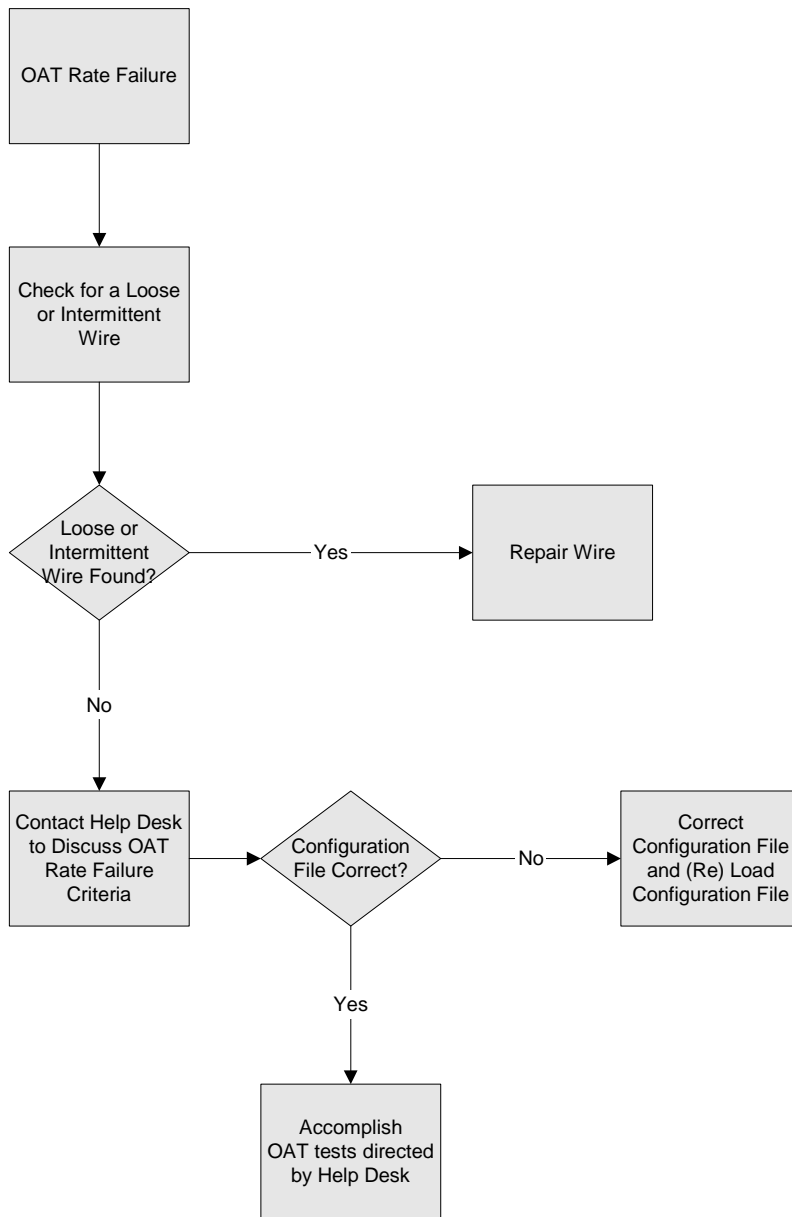

Figure 22: OAT Rate Failure Troubleshooting
- c. Rate Failure – Refer to Figure 22.